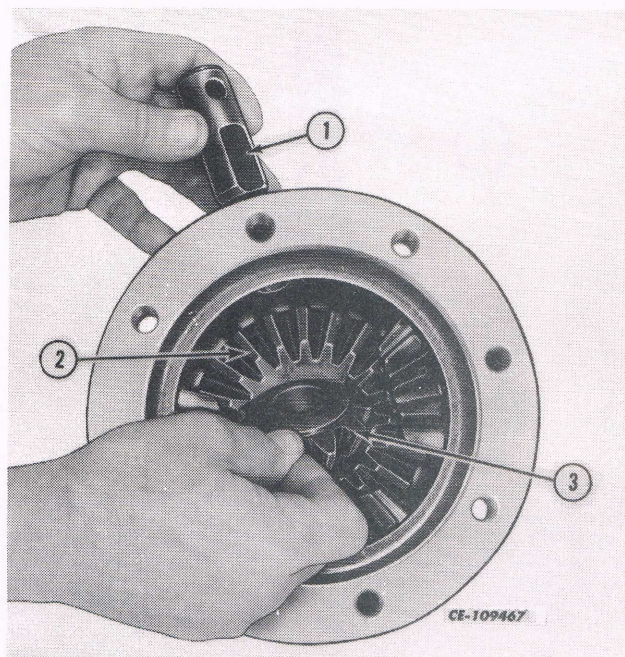

Fig. 11
6. Remove the differential pinion shafts (1) and differential pinion gears (3). Remove the differential bevel gear (2). See Fig. 11.